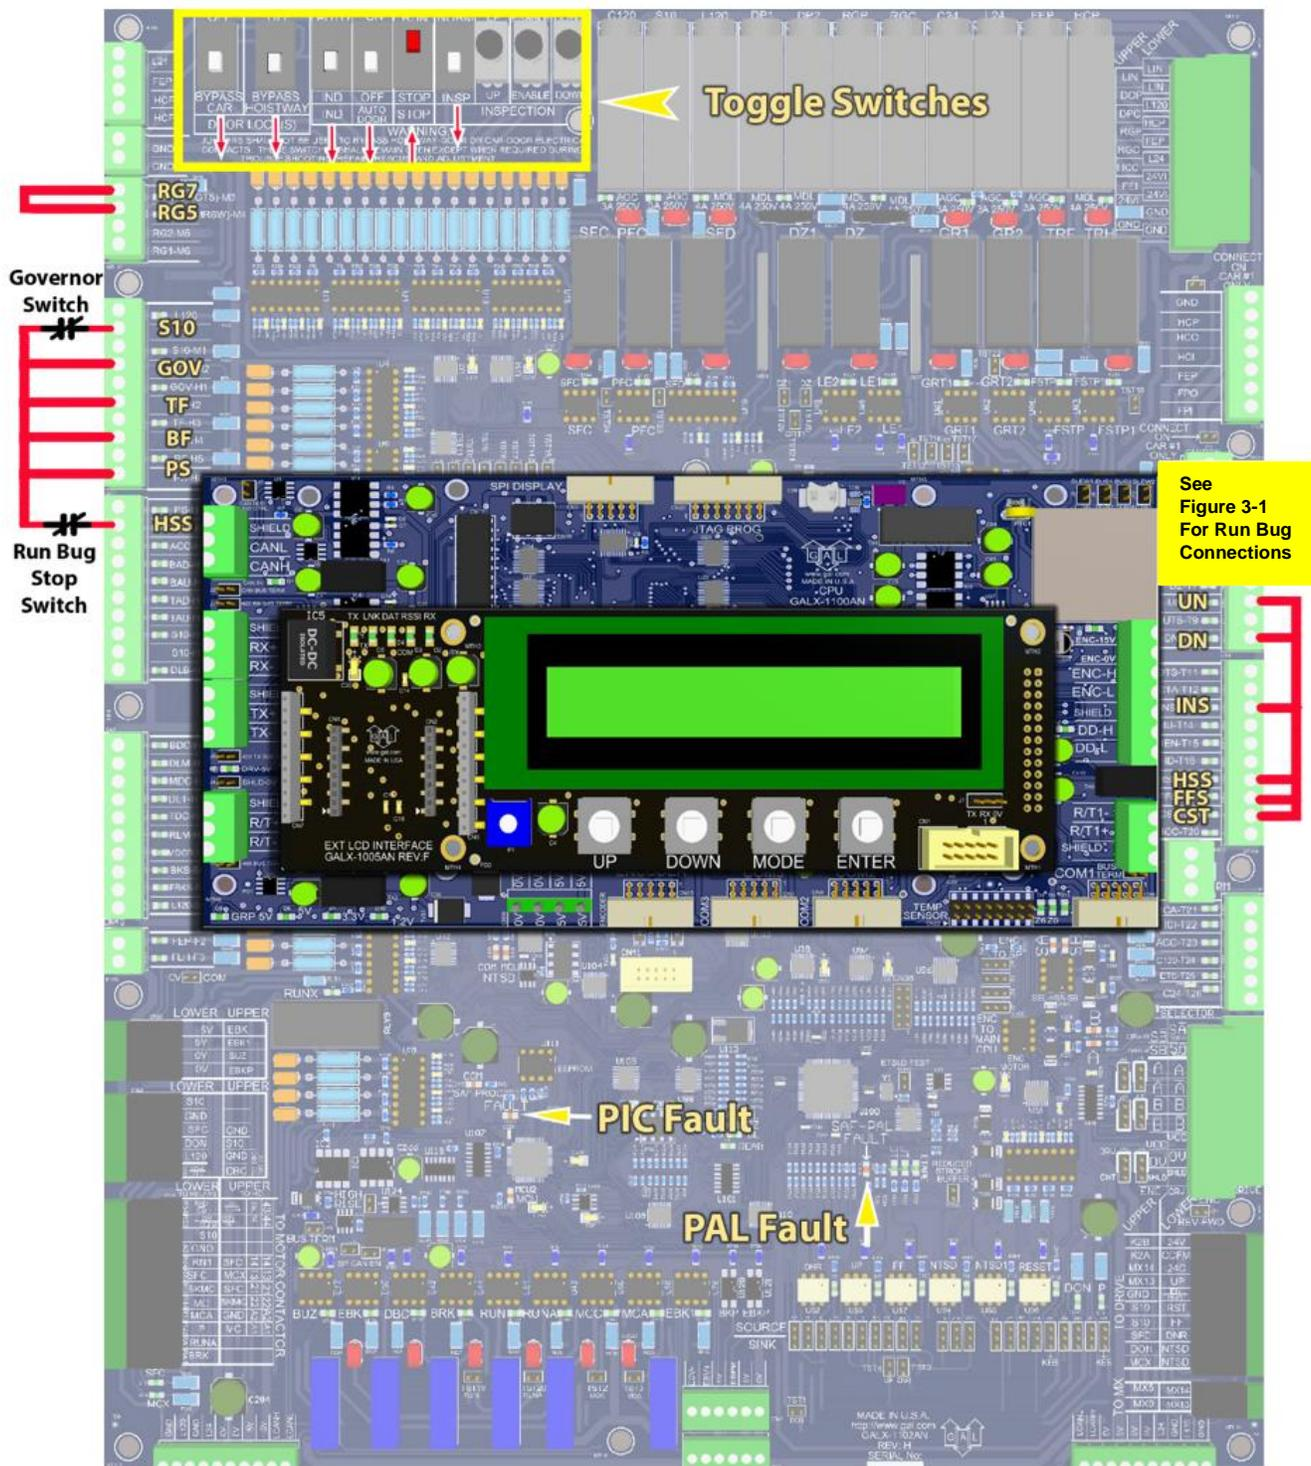

Figure 3-4: GALX-1102AN Main I/O
- 6) Set the toggles switches on the GALX-1102 Main I/O Board as show in Figure 3-4.